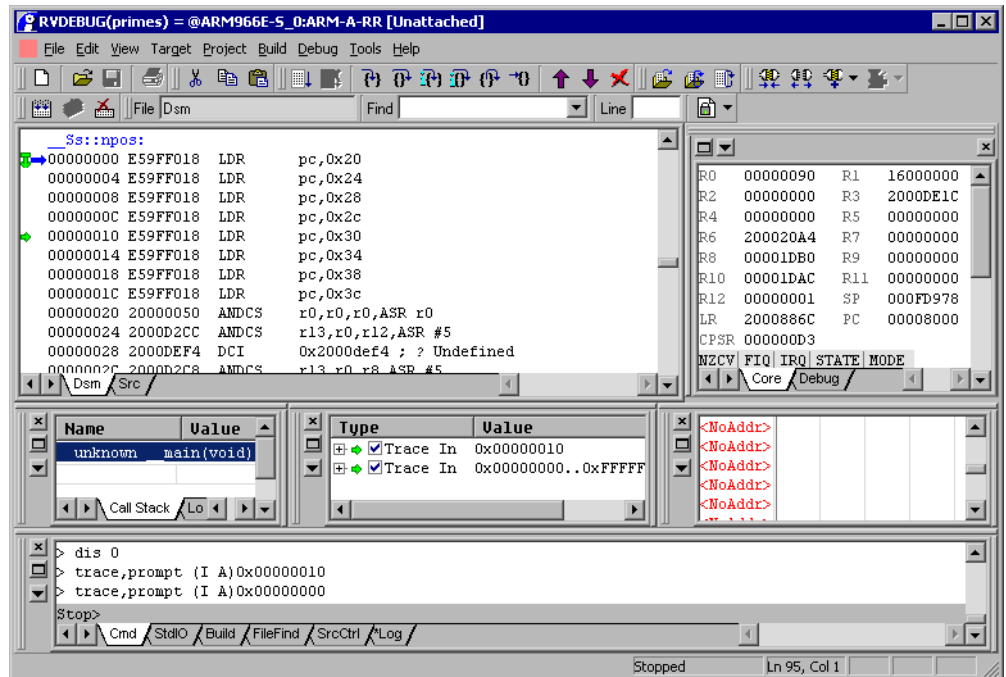

Figure 2-45 Setting a trace range
- c. In the List Selection dialog box, select **Start of Trace Range (Instruction and Data)** and click **OK**. Another arrow  is placed next to the address 0x0. This arrow indicates the start of the trace range you have set, and details of this tracepoint are displayed in the Break/Tracepoints pane of the Code window, as shown in Figure 2-45 on page 2-145. The end of the trace range is automatically set to the end of memory space (0xFFFFFFFF).